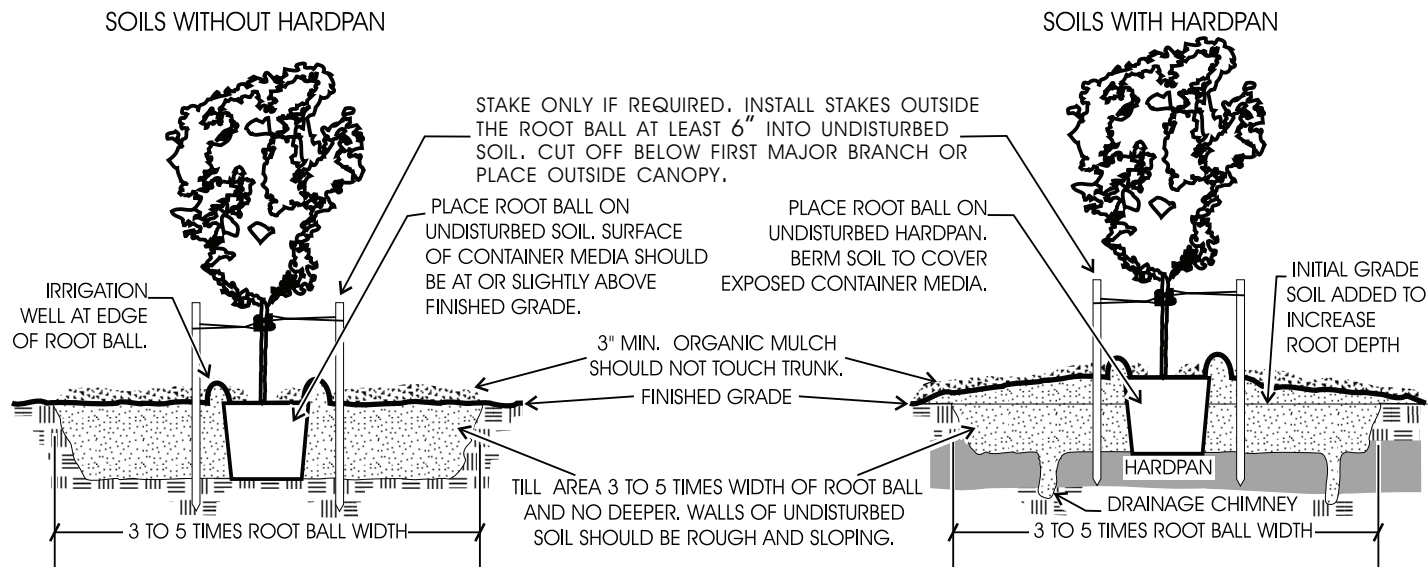

Figure 1. Planting and staking a tree in soil without a hardpan (left) and with a hardpan (right).
2. Chimney holes may improve poor drainage due to a shallow, thin hard pan. These are holes dug through the hard pan (Figure 1). Dig several chimney holes beside, not beneath, root ball to avoid root rot due to excess water. Fill these holes with the same soil used in the planting hole, not gravel. Since it is impossible to determine the depth of any hardpan or caliche layer, drainage chimneys may not always be practical where these layers are several feet thick.
5. Form an irrigation well or berm, if used, at the edge of the root ball (Fig. 1). Irrigate the plant and the entire tilled area. Apply enough water to thoroughly wet the soil to the depth of the root ball. This will remove air pockets (which can dry out the soil and roots) without compacting the soil. This is best done by hand watering with a hose if possible. More soil may have to be added after the first irrigation. It is important to put water in the irrigation well for the first few weeks to make sure the root ball is moist. If the irrigation well is wider than the root ball, it may stay dry even though the soil is wet. Expand the irrigation well or adopt another method of irrigation once roots are growing into the surrounding soil.